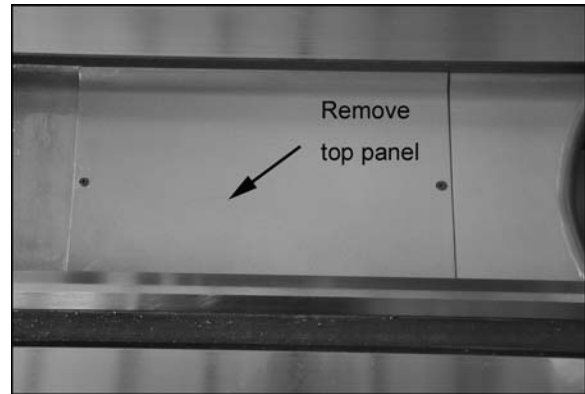

Figure 19 –Coolant pump access (GH-26120ZH)
- 1) Remove top panel inside the bed (Figure 19).